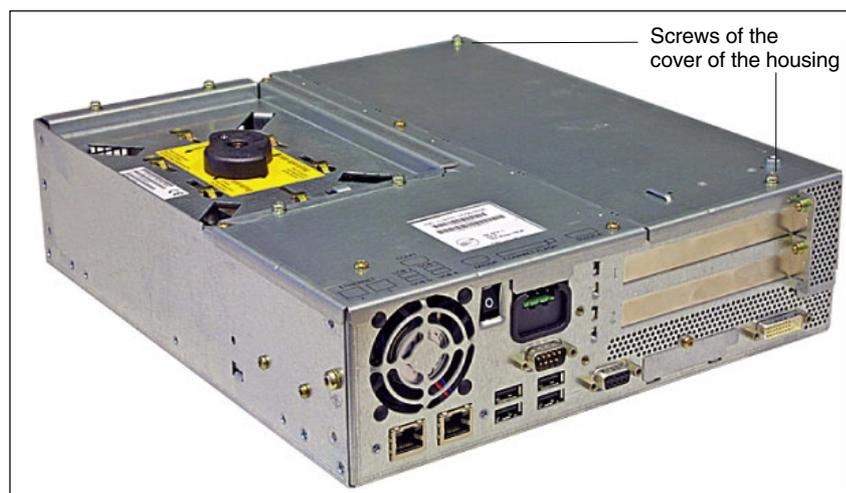

Fig. 2-3 Cover of the housing of the PCU 50.3
4. Remove the screws from the cover of the housing (Fig. 2-3) and open the housing of your PC, observing the relevant safety regulations.